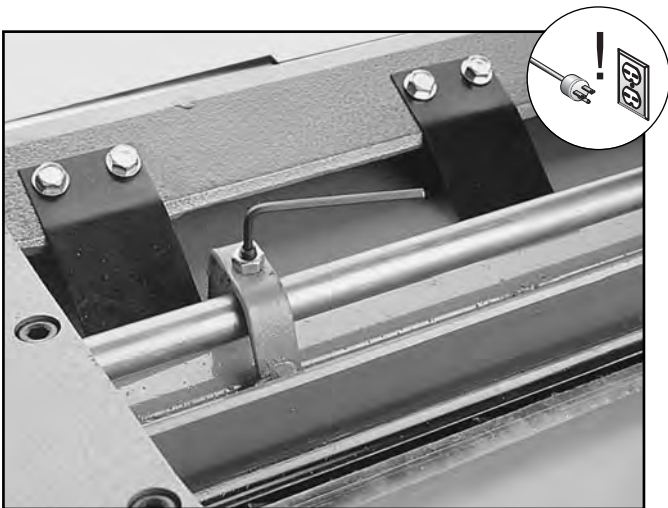

Figure 36. Chip breaker height adjustment.
2. If an adjustment is necessary, loosen the locknuts and turn the setscrews. See **Figure 36**. Stop turning when the bottom of the chip breaker just touches the gauge block.